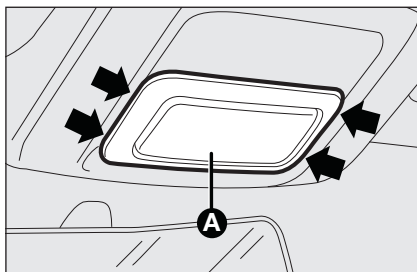

fig. 25
- ☐ using the screwdriver provided, extract the roof light **A**-fig. 25 working in the point indicated by the arrow;